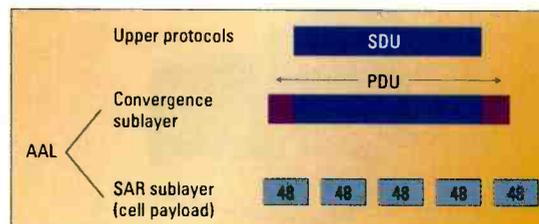

Figure 3. The AAL layer distributes application data into 48-byte cell payload blocks.
ATM cells have a 48-byte payload. To get the user data broken down into these payloads, the AAL contains a convergence sublayer (CS), which provides application-specific timing and control. The segmentation-and-reassembly (SAR) rules break down CS protocol data units into 48-byte cell payloads (see Figure 3).